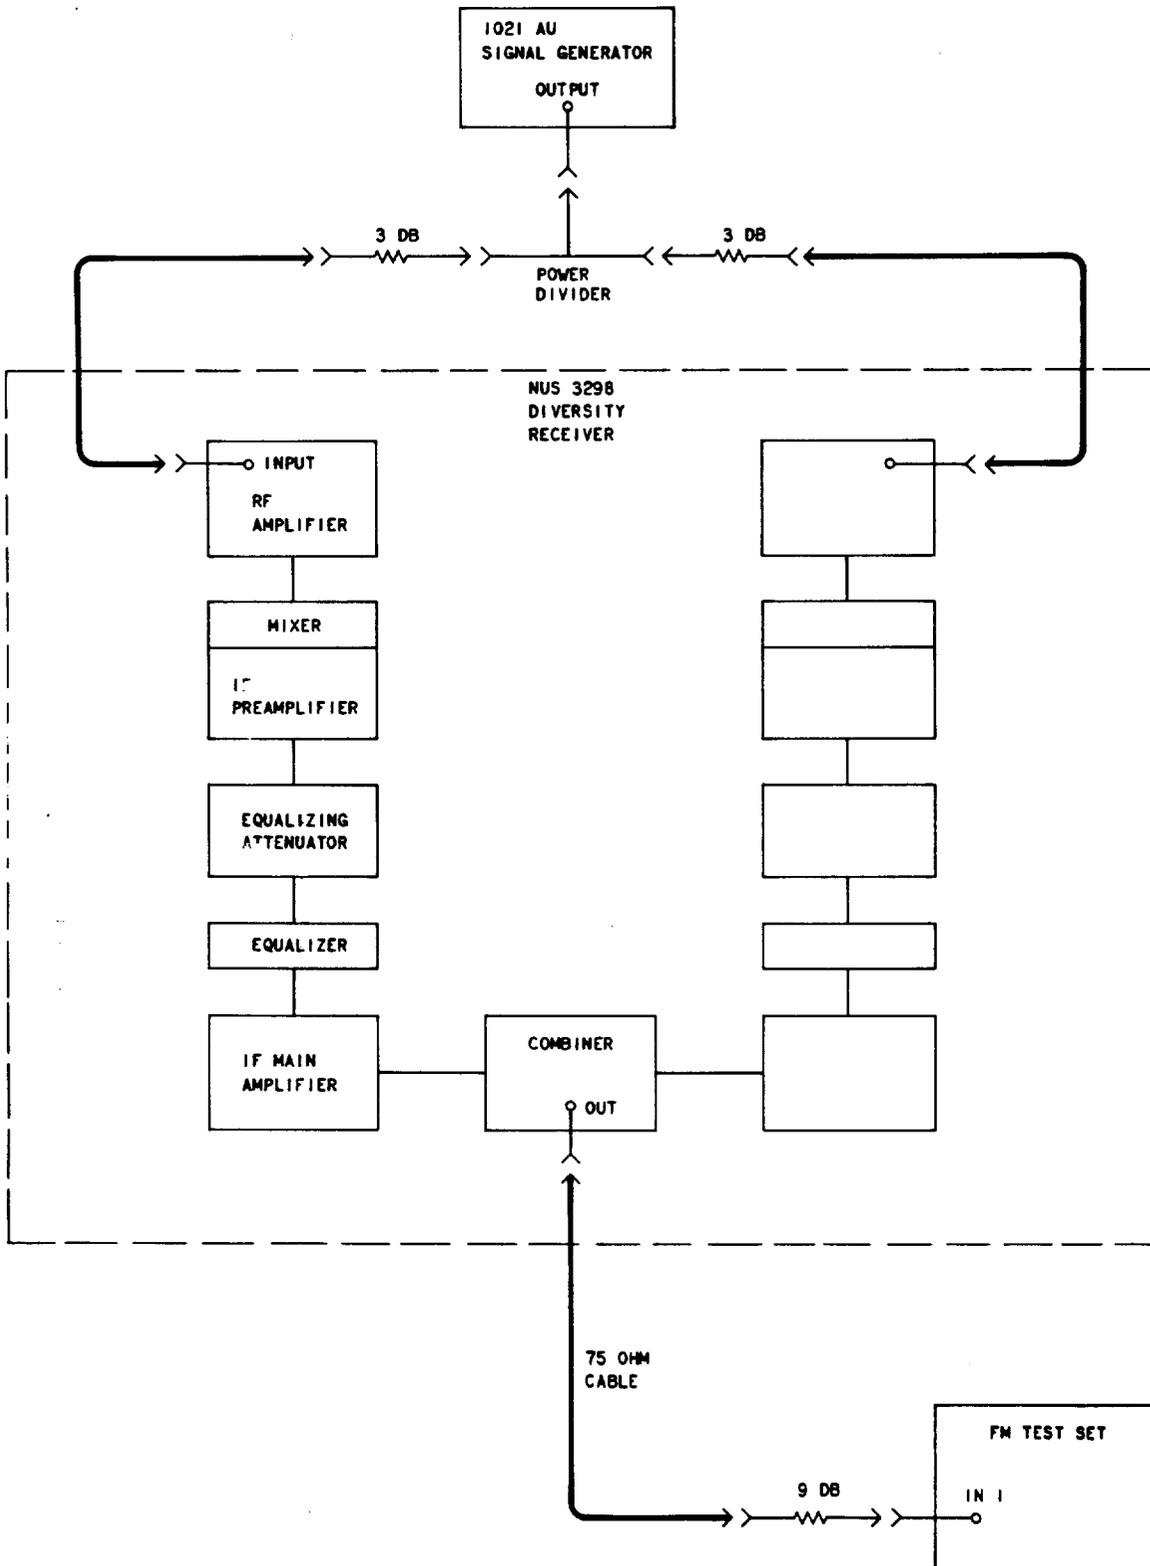

Fig. 1—NUS 3298 Receiver—Gain Control and Alarm Tests—Test Setup Diagram
- 4 Make the test arrangement shown in Fig. 1.
1	Verify that the test equipment and receiver under test are arranged as at the conclusion of the dual diversity adjustment tests described in Chart 1 of this section. Note: The receiver should be operating in dual diversity using automatic gain control and connected to the test arrangement shown in Fig. 1. The signal generator should be set at the receiver frequency with the output level calibrated. The 9-dB attenuator and FM test set shown connected to the receiver combiner output serve as a combiner termination. A 486A termination may be used in place of the attenuator and the FM test set.